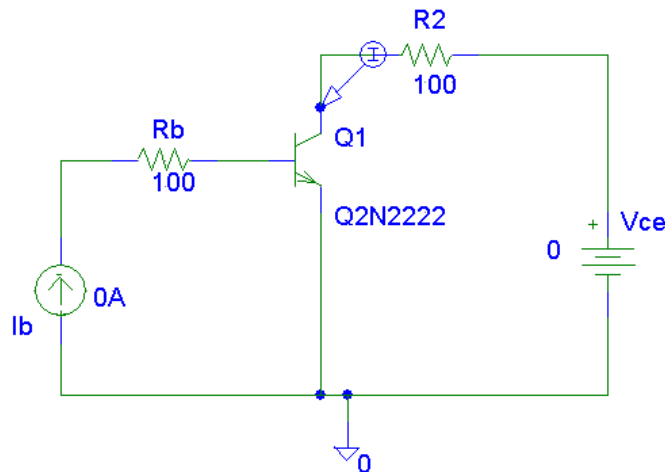

Fig. 5. BJT transistor circuit 3
7. Construct the circuit in Fig. 5 in Pspice. Place a current marker on the collector of the Q2N2222. A second DC Sweep is required to generate the output characteristics. First select DC Sweep and set it up for sweeping  $V_{CE}$  from 0V to 6V with linear increments of 5mV. Then select Nested Sweep and set that up for sweeping  $I_B$  from 0 $\mu$ A to 50 $\mu$ A with linear increments of 5 $\mu$ A. Make sure to select *Enable Nested Sweep*.
9. Set  $V_{CE}$  shown in Fig 5 to 5V and do a linear sweep starting at 0, ending 30 $\mu$ A with a linear increment of 5 $\mu$ A. Find the DC and AC current gain  $\beta_{DC}$  and  $\beta_{ac}$  of the transistor. Remember,  $\beta_{DC}$  and  $\beta_{ac}$  are defined by (3) and (4) respectively.